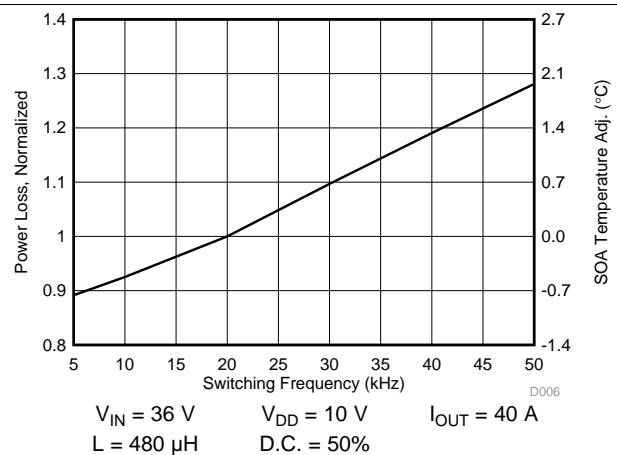

Figure 4. Normalized Power Loss vs Switching Frequency
- Normalized power loss for switching frequency \approx 1.19 (Figure 4)
- SOA adjustment for switching frequency \approx 1.3°C (Figure 4)